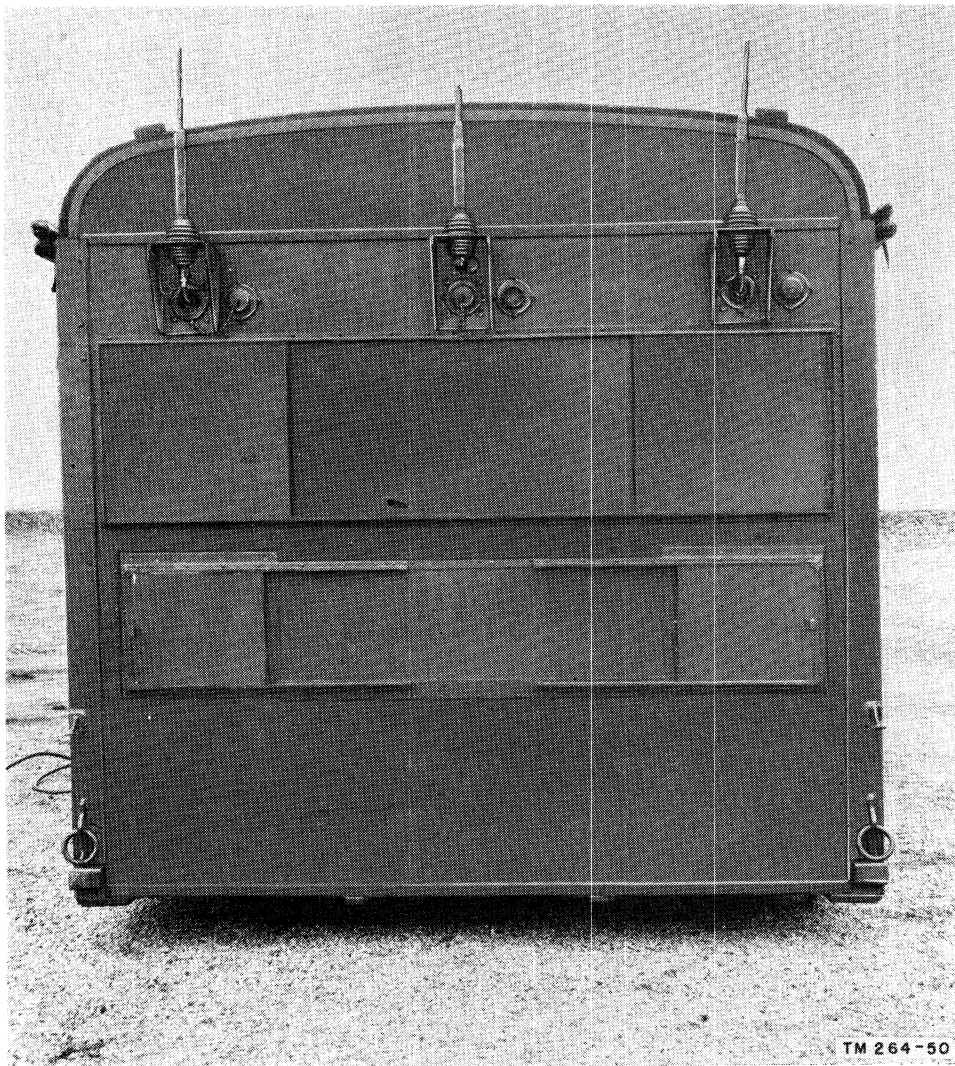
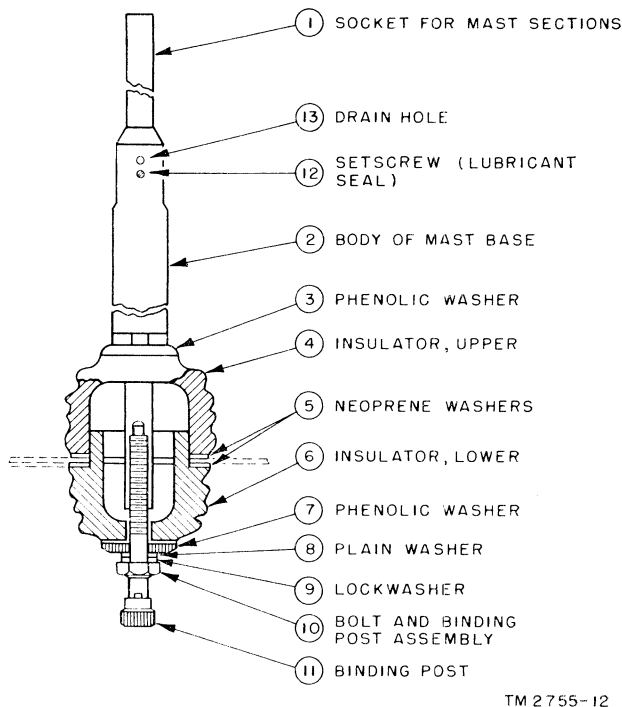

Figure 29. Front view of shelter showing receiving antenna mast bases.
Figure 30. Assembly of Mast Base MP 65 C.
b. To mount three Mast Brackets MP-50 to the front of the shelter (fig. 29), first remove the receptacle housings (with gasketed covers) already mounted on the front end of the shelter.
c. Assemble Mast Bases MP-65-C as shown in figure 30, using Adapter Kit M-459. Mount them on Mast Brackets MP-50. The large spacing washer is to be located against top of bracket, grounding the ring against the under side. Mount Mast Bracket MP-50 with the four bolts and nuts provided. Remount the receptacle housings in their original location (fig. 29).